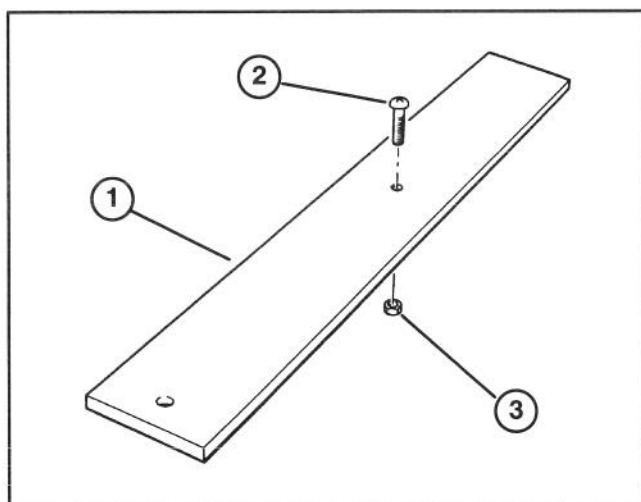

Figure 7
1. Loosen nut on gauge bar and set adjusting screw to obtain desired distance between bottom of screw head and face of bar (Fig. 7). Tighten nut, making sure adjustment is not altered.